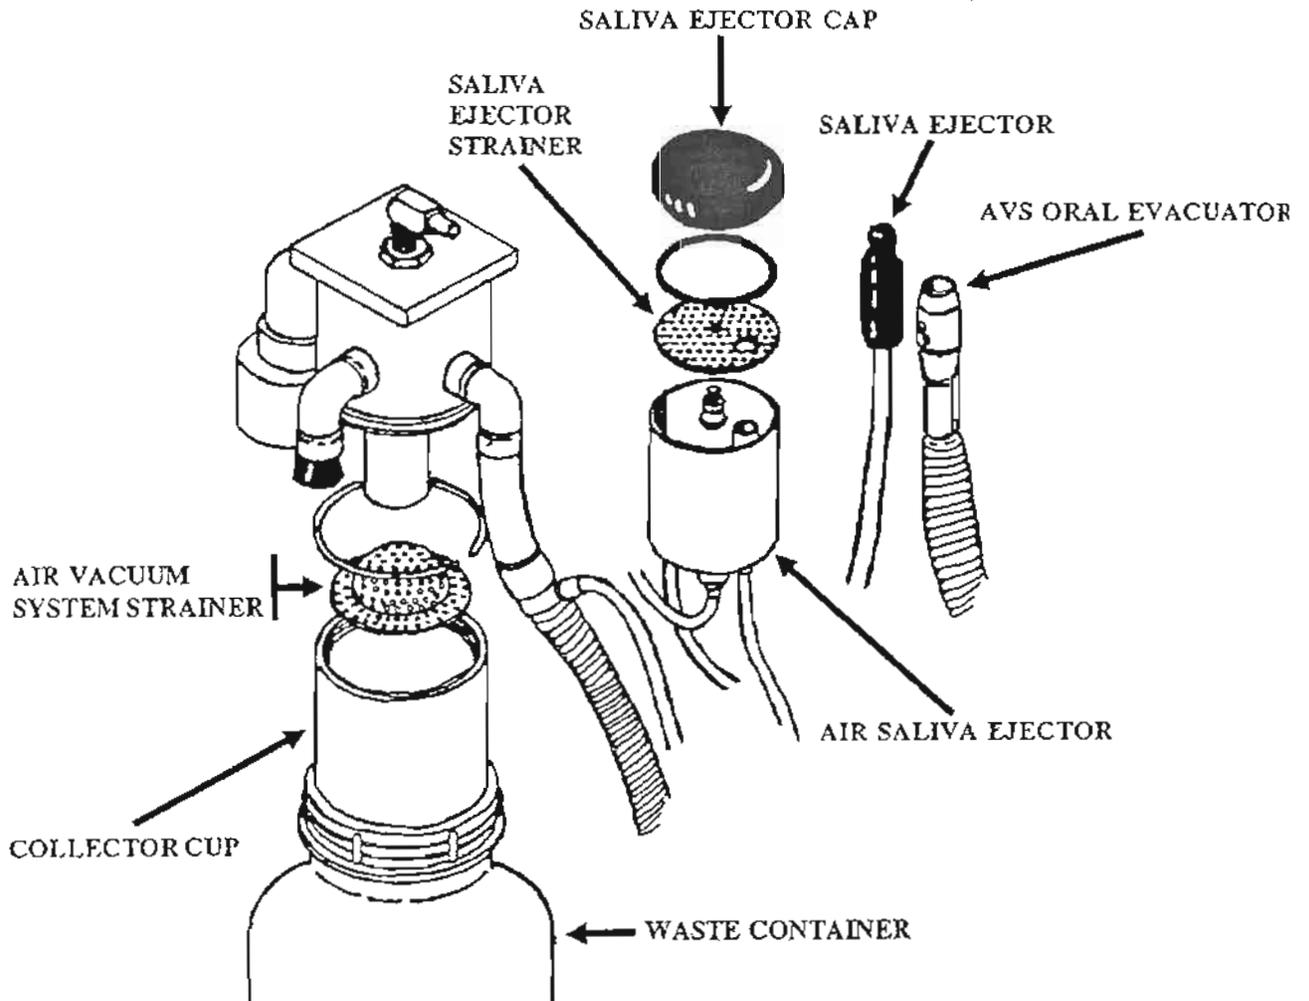

Figure 2-1. AVS and ASE assemblies.
(3) *Air vacuum system.* The AVS system (fig 2-1) should be cleaned as follows: